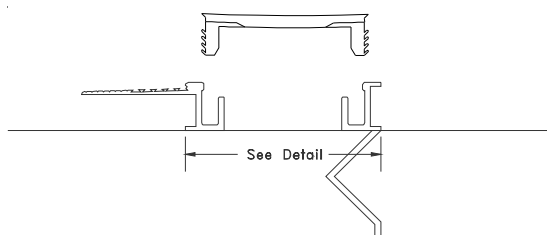

Figure 5
**STEP 5.** Select a base member, a corner wall base member, and the elastomeric seal. Place the base member and corner wall base member about the width of the elastomeric seal apart on a flat working surface (see Figure 5). Ensure that the base members' channels are facing one another.